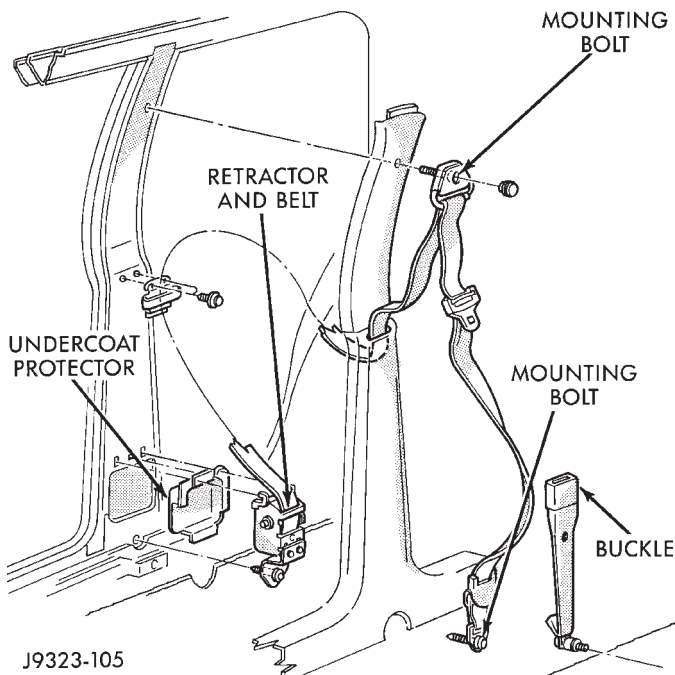

Fig. 8 Front Seat Belt
- (3) Remove upper front seat belt mounting pivot (Fig. 8).
- (4) Detach and remove upper B-pillar trim panel.
- (5) Remove lower front seat belt mounting bolt (Fig. 8).
- (6) Remove 2 mounting screws located behind upper B-pillar trim.
- (7) Remove trim panel.
- (1) Remove shoulder belt retaining bolt (Figs. 8 and 11).